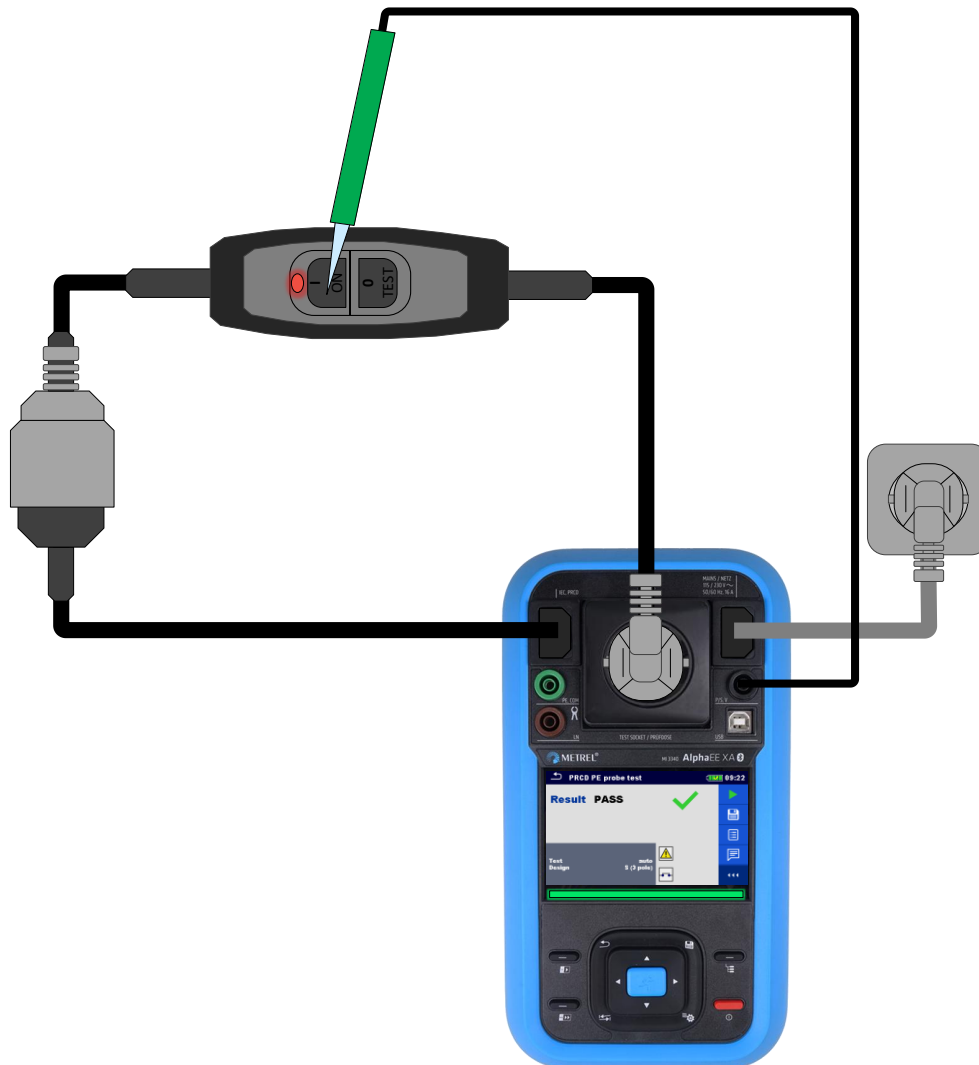

Figure 155_PRCD PE probe test_Auto mode
- Connect the DUT according to the connection diagram Figure 155_PRCD PE probe test,